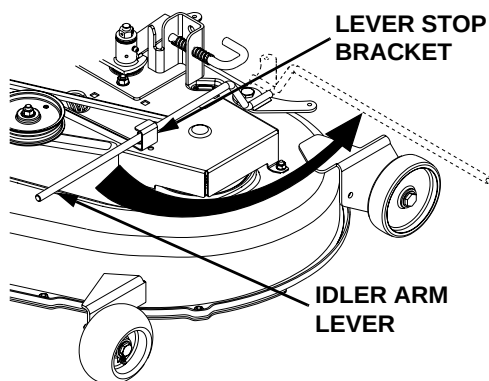

Figure 6-24
9. Disengage the deck idler arm lever from its stop bracket and release the spring tension by rotating the lever out and rearward (See Figure 6-24).